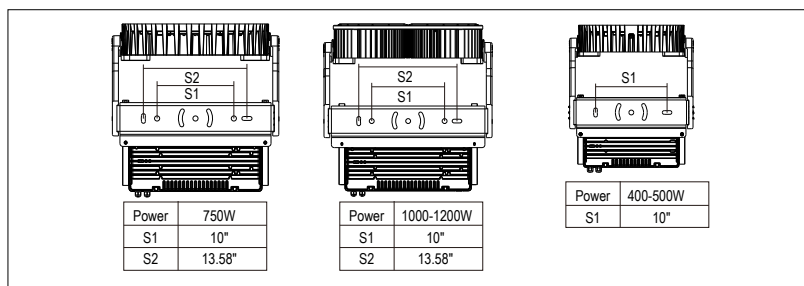

Figure 2
1. Measure and mark the hole spacing (S1 or S2) as indicated on the product (Figure 2).